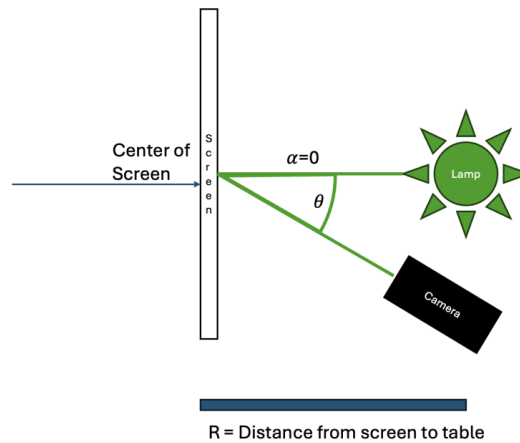

Figure 5: Sketch of set-up at lab.
- g. Adjust only the azimuth angle of the rotating stage until the camera points at the calibration screen. Note down the change in azimuth angle from the zero position (zero position should have azimuth angle of 180 degrees). This angle is α in Figure 5 and is necessary to do the calculations correctly.